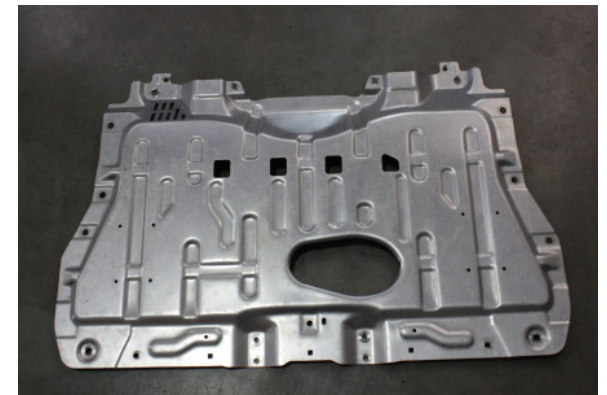

Fig. 11E
- G. Remove the lower metal splash guard from the vehicle by removing the (8) 12mm screws, (4) 10mm screws & (6) plastic push clips. See Fig. 11E